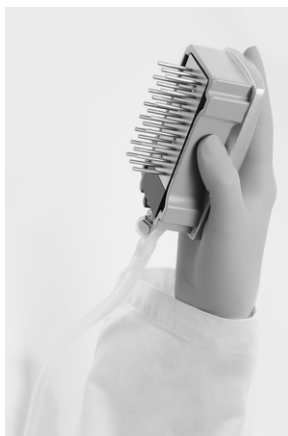

Figure 3. Illustration of the vacuum tool raised to beyond 90° vertical.
9. Raise the vacuum tool up and back, beyond 90° vertical, for 5 seconds to drain liquid from the filter probes (Figure 3).
- 14. Raise the vacuum tool up and back, beyond 90° vertical, for 5 seconds to drain liquid from the filter probes (Figure 3).**
- 15. Close the vacuum switch on the tool (Off), and place the vacuum tool in the Parking (P) position.**